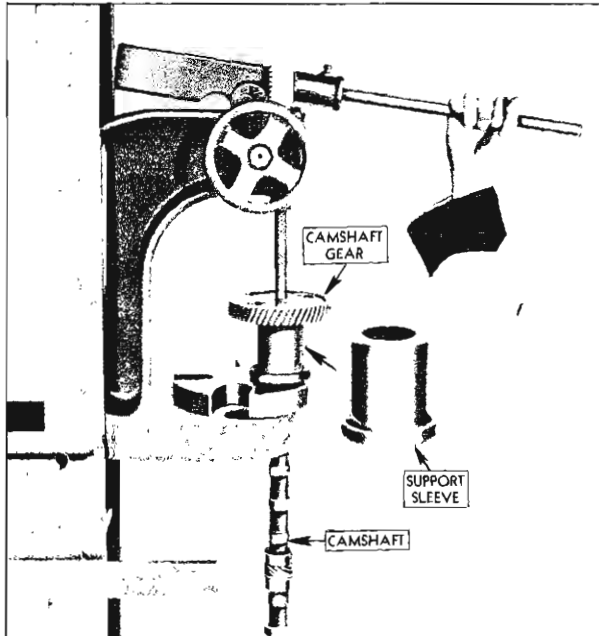

Fig. 38—Removing Camshaft Gear
2. Place the camshaft through the gear remover, place end of remover on table of a press and press shaft out of gear (fig. 38).